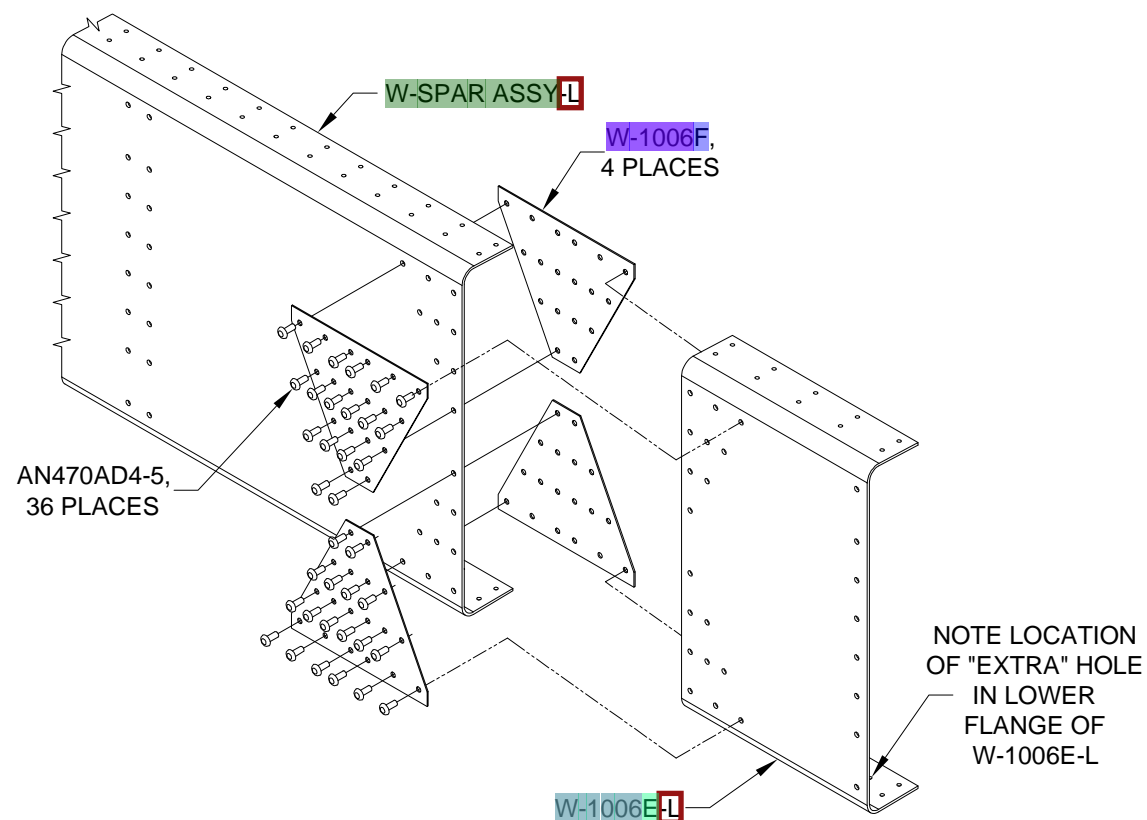

FIGURE 1:
Step 1: Cleco the **W-1006E-L** Main Spar Web Extension to the **W-SPAR ASSY-L** Spar Assembly - Left using four **W-1006F** Spar Splice Plates. Correct orientation of the main spar web extension places the "extra" hole in one of the flanges on the bottom. See Figure 1. Final-Drill the spar splice plates to the spar assembly and web extension using a #30 drill.
Step 4: Re-cleco the four **W-1006F** Spar Splice Plates and **W-1006E-L** Main Spar Web Extension to the **W-SPAR ASSY-L** Spar Assembly - Left and install rivets as shown in Figure 1.